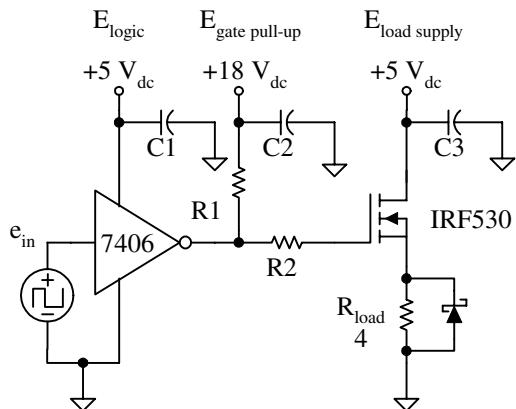

Figure 6-32 Schematic for Problem 6-19
- 6-19** For the circuit in Figure 6-32, with a 30% input duty cycle, calculate R_1 , R_2 , t_{rise} of gate voltage, $R_{\text{on}} @ T = 140^{\circ}\text{C}$, P_{load} , P_Q , Θ_{SA}
- 6-20** If the load in Figure 6-32 is a 12 V , 2 A motor, redesign the circuit and repeat all of the calculations from Problem 6-19.